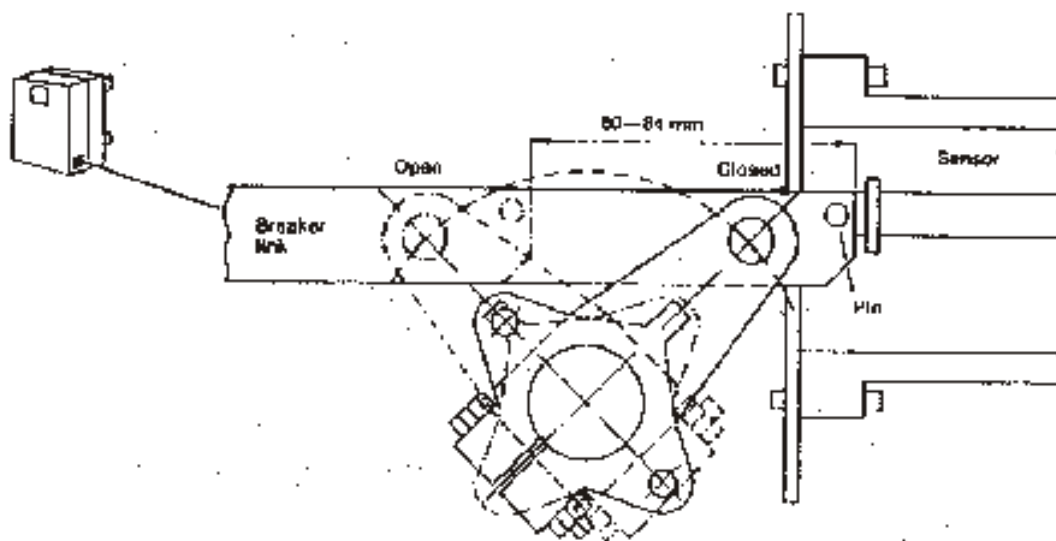

Fig 18
- 1) Connect the sensor to the connecting link of the poles, see figure 18.